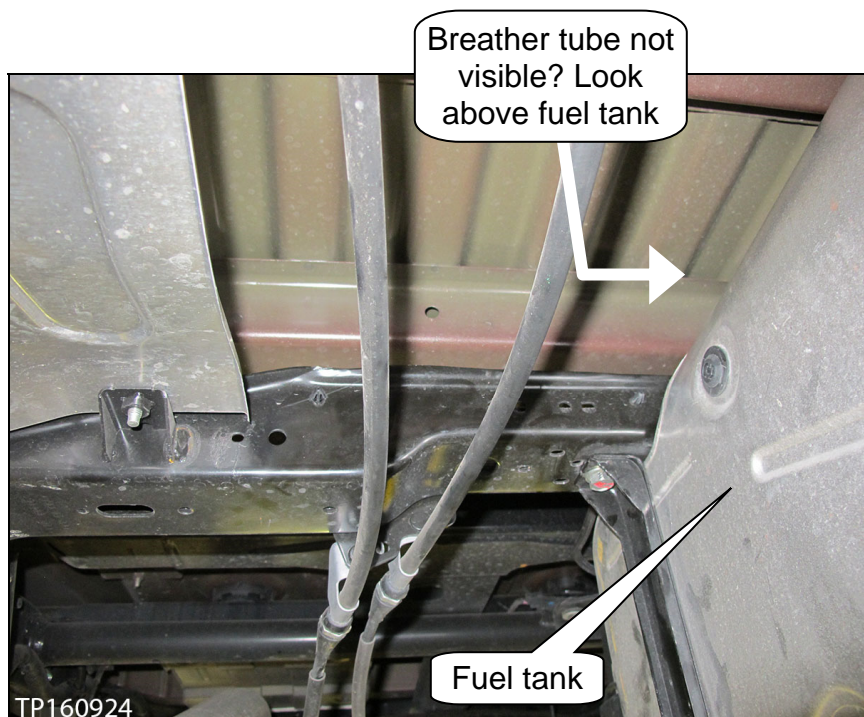

Figure 9
- e. If the breather tube cannot be seen (see Figure 9):